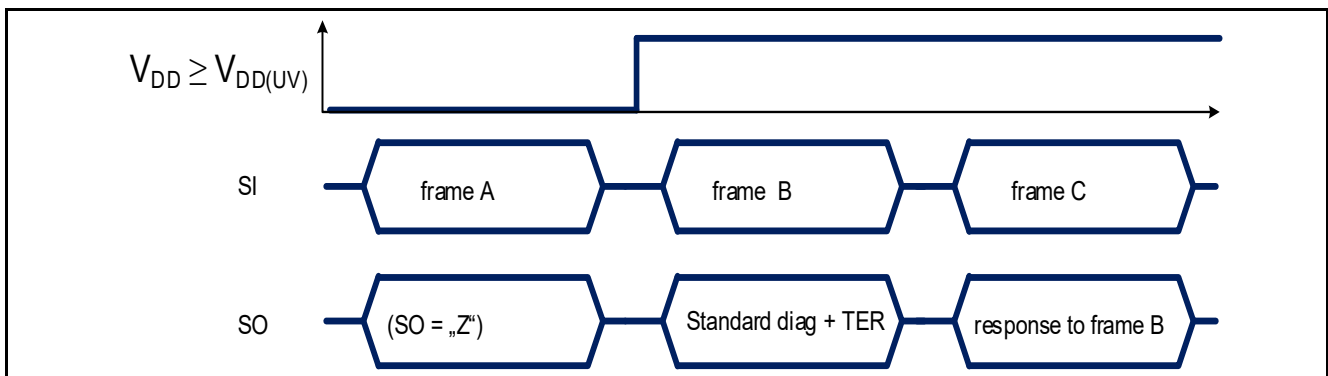

Figure 43 TLD5542-1 response after coming out of Power-On reset at V_{DD}
- when TLD5542-1 logic supply comes out of an Undervoltage reset condition ($V_{\text{DD}} < V_{\text{DD(UV)}}$) as shown in **Figure 43** or $V_{\text{EN/INUVLO}} < V_{\text{EN/INUVLOth}}$